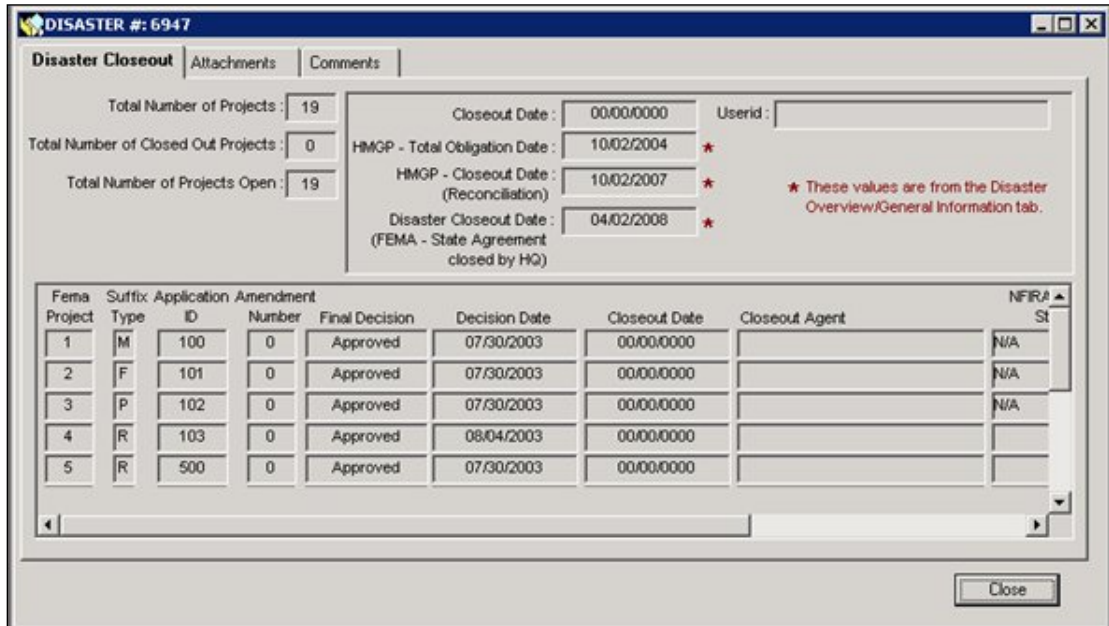

Figure 13-7: Mitigation >Disaster >Closeout >Disaster Closeout Tab - Project Information
- The bottom section of the Disaster Closeout tab displays read-only information about each project in the program (Figure 13-7).